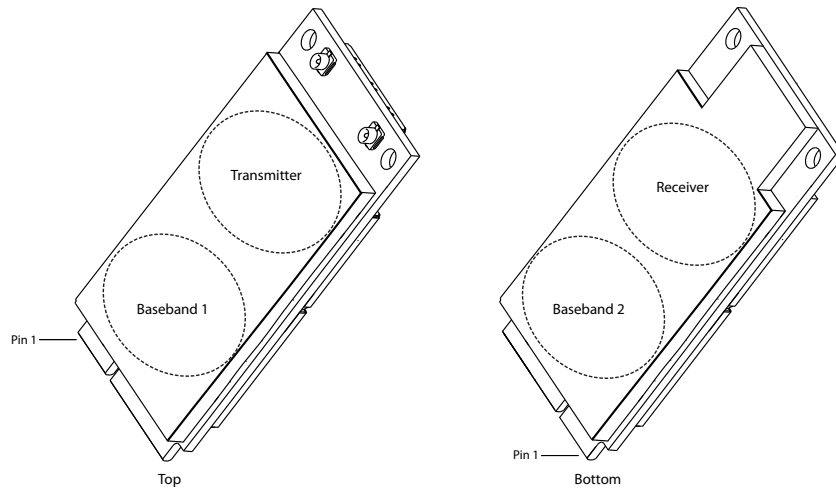

Figure 6-1: Shield locations
Specific areas requiring heat dissipation include the following four shield cases indicated in Figure 6-1 on page 66:
- Monitor temperature at all shield locations. Attach thermocouples to each shield in the areas indicated in Figure 6-1 on page 66 (Transmitter, Baseband 1, Receiver, Baseband 2).